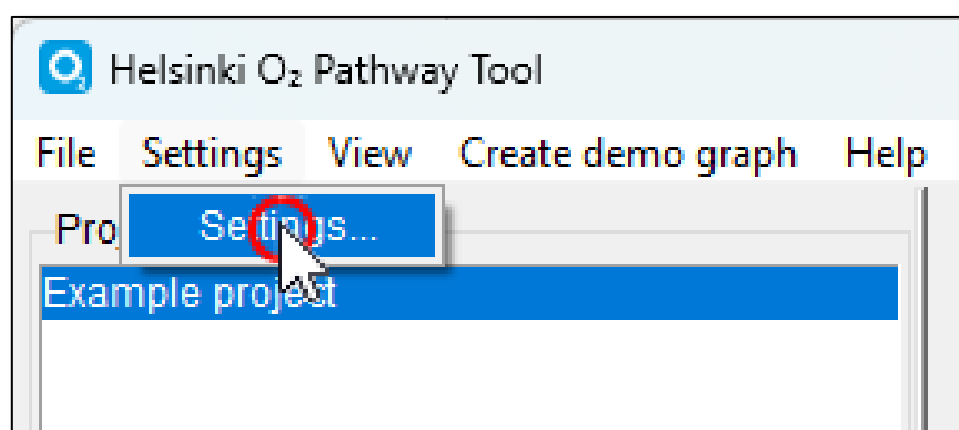

Figure 57
1. Open default settings from the “Settings” menu in the main menu bar (Figure 57).